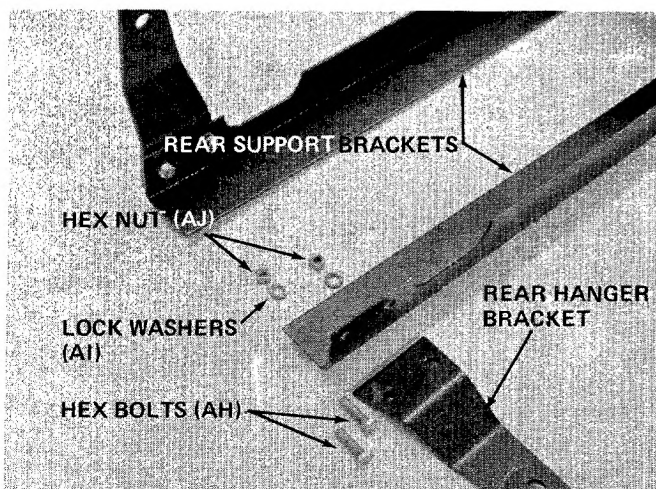

FIGURE 13
10. Attach rear hanger brackets to rear support brackets using hex bolts (AH), lock washers (AI) and hex nuts (AJ). See figure 13. **Tighten finger tight only at this time.**